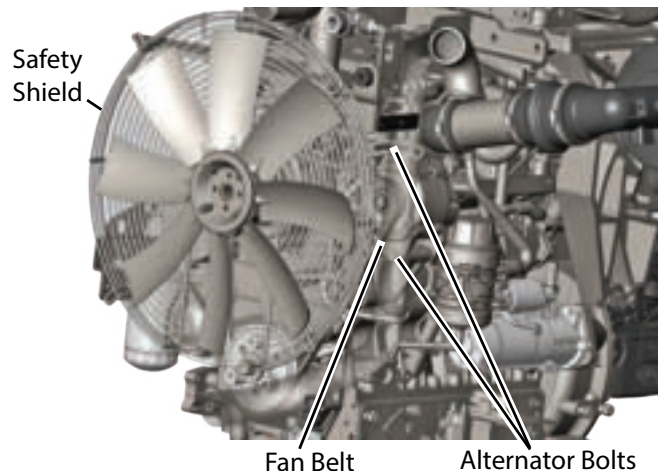

Figure 5-16. Engine Belt
2. Remove the safety shield. **(Figure 5-16)**